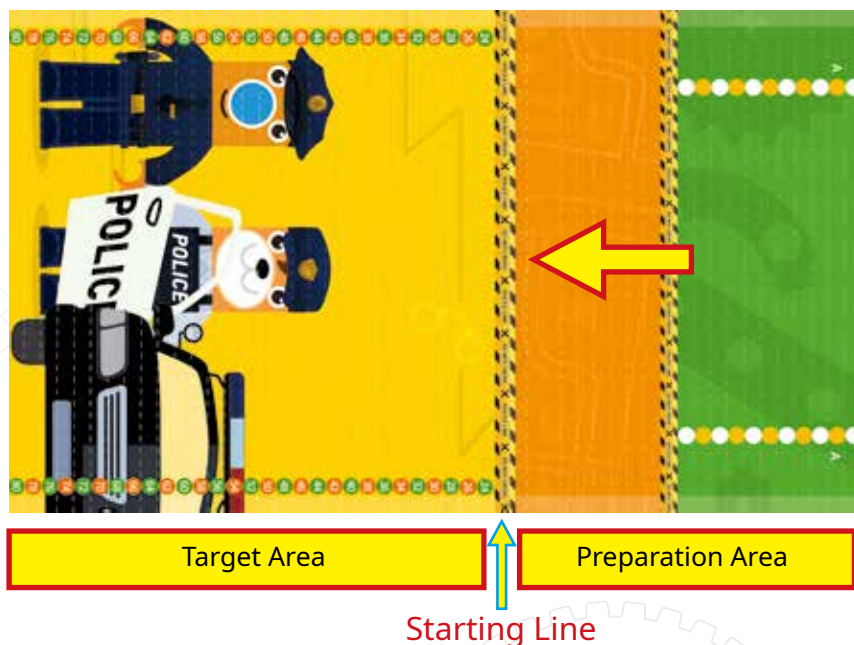

Figure 4. Descriptions of the site for competition one (The left side of the whole site paper)
- (4) The scores for this competition are as follows (see Figure 4). The leftmost area earns 80 points, and each square in sequence decreases by 2 points to the farthest right, which scores 24 points.